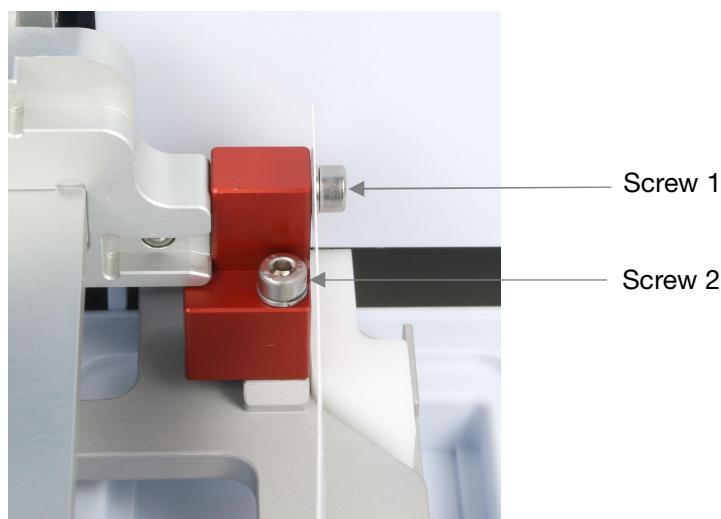

Figure 3-6. Transport lock fastened
2. Remove the screws, the transport lock piece and the transport lock tag from the screw marked 1 (Figure 3-6). Keep the tag for future relocation or transportation of the instrument. The transport lock is now released.